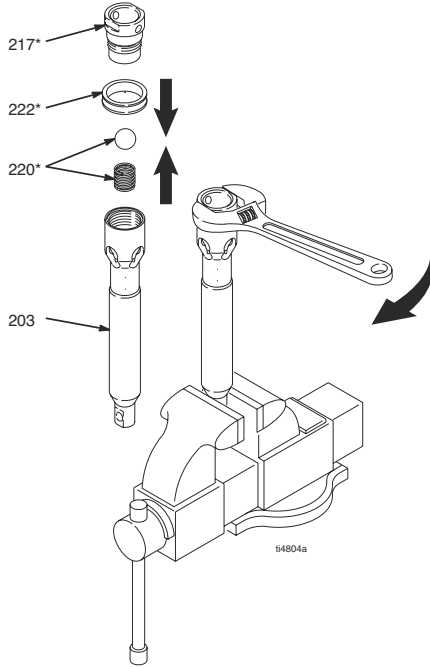

FIG. 16
1. Fig. 16. Place end of piston rod (203) in vise. Install new piston seal (222). Torque piston valve to 27 ft-lb (36.6 N⋅m).